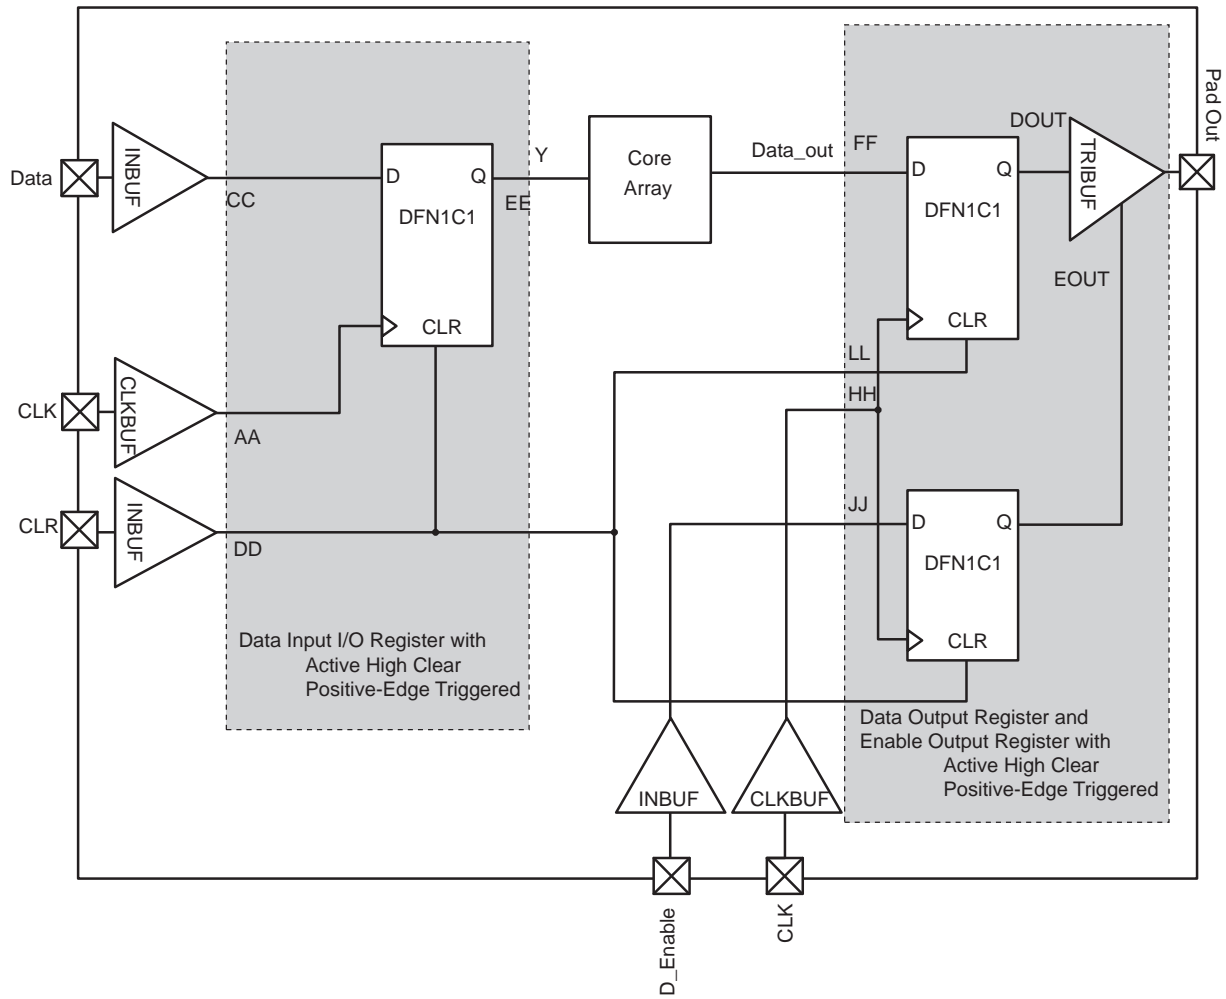

Figure 2-13 • Timing Model of the Registered I/O Buffers with Asynchronous Clear
*Note:* \*See Figure 2-13 on page 2-43 for more information.